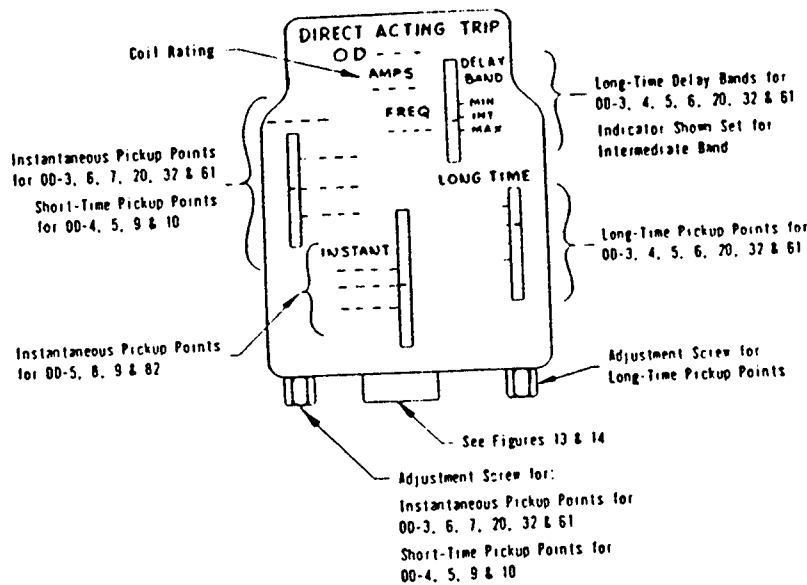

Fig. 14
Turn the adjustment until the top of the long-time delay indicator is in line with the desired delay line (Fig. 14). Push the armature toward the magnet, allowing time for the oil in the dashpot to be displaced. Release the armature, allowing the armature to reset. Check to see that the long-time indicator and line are in line. Readjust if required, and recheck by pushing the armature and allowing it to reset.
**Pick-Up Setting Adjustments (See Fig. 14)**